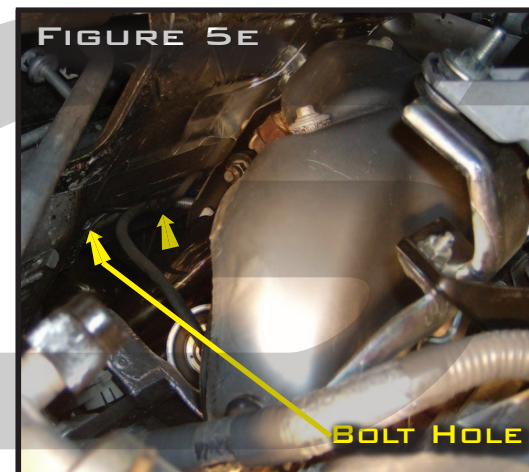

FIGURE 5E
E. PUT A SMALL AMOUNT OF ANTI-SEIZE ON THE THREADS OF THE UPPER O2 SENSOR AND INSTALL IT INTO THE UPPER PORT ON THE DOWNPIPE. REROUTE THE WIRE HARNESS AS SHOWN IN FIGURE 5E BY CONNECTING THE WIRING COIL WHICH WAS EARLIER REMOVED FROM